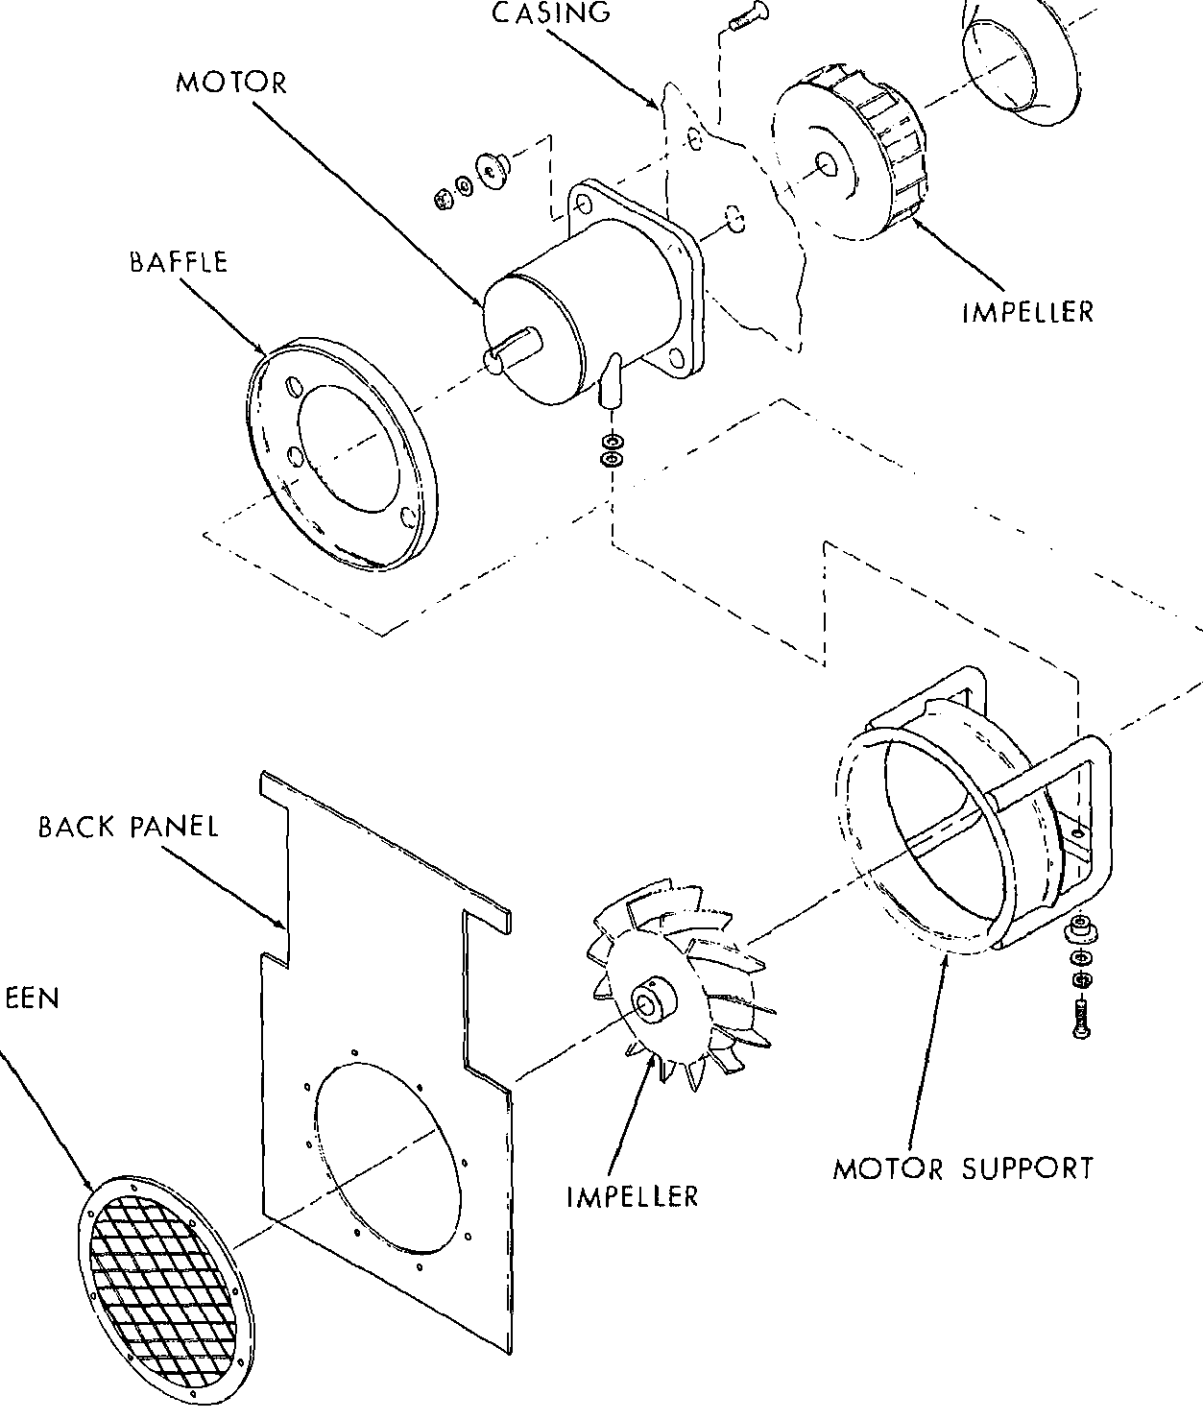

Figure 4-6. Back Panel and Motor Support.
4-15. Back Panel and Motor Support (See figure 4-6).
(10) Position the CBR cover on the upper left-hand corner of the back panel, and secure with five screws.
(11) Loosen four nuts attaching the fan motor to the partition if necessary to insert washer between mounting feet of motor and motor mounting assembly. Assemble mounting hardware as shown in figures 4-6 and 4-7. Select proper thickness of resilient washer. Tighten four nuts on motor flange when mounting is complete.
4-20. Instruction Plates (See figure 4-6)